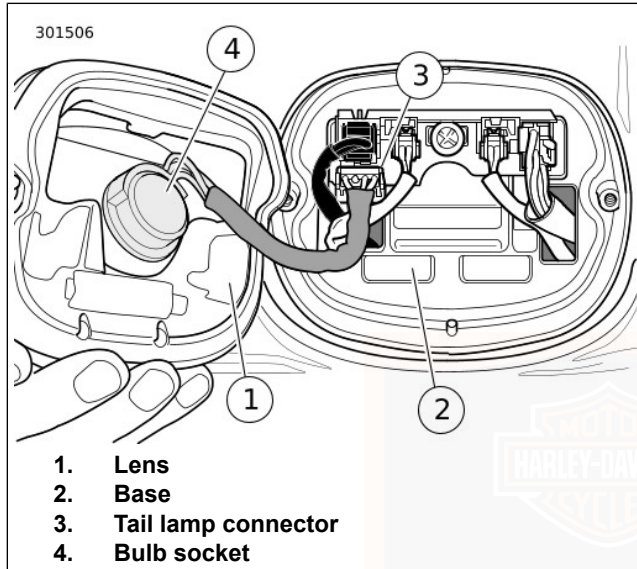

Figure 91. Tail Lamp Assembly
2. See Figure 91. Disconnect tail lamp connector (3).
3. Rotate bulb socket (4) a quarter turn counterclockwise and remove from tail lamp assembly. Remove bulb.
2. See Figure 91. Insert socket (4) into tail lamp assembly. Rotate a quarter turn clockwise.
3. Attach tail lamp connector (3).